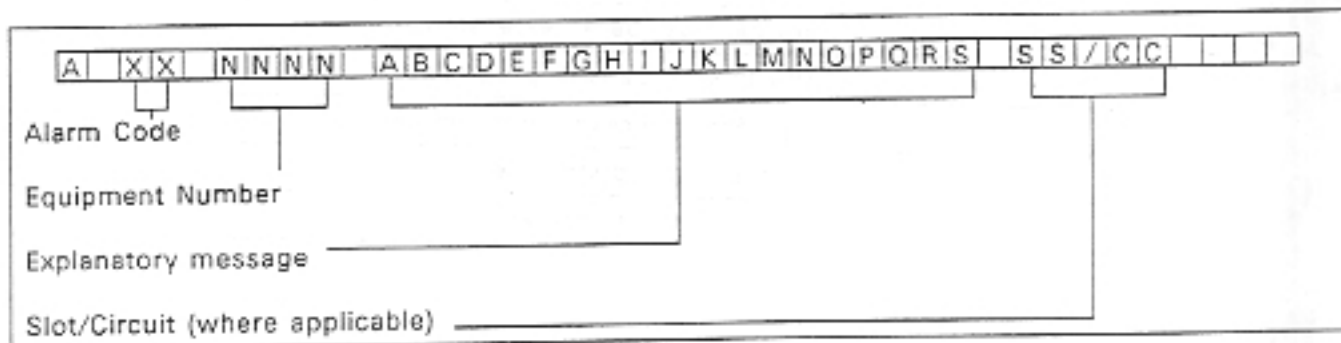

Figure 4-1 Alarm Message Format
4.01 The SX-50™ system can detect certain errors made during CDE. The detection of a programming error results in a display similar to that shown in Figure 4-1, Alarm Message Format. The meaning of each code is listed in Table 4-1, Summary of Error Codes.